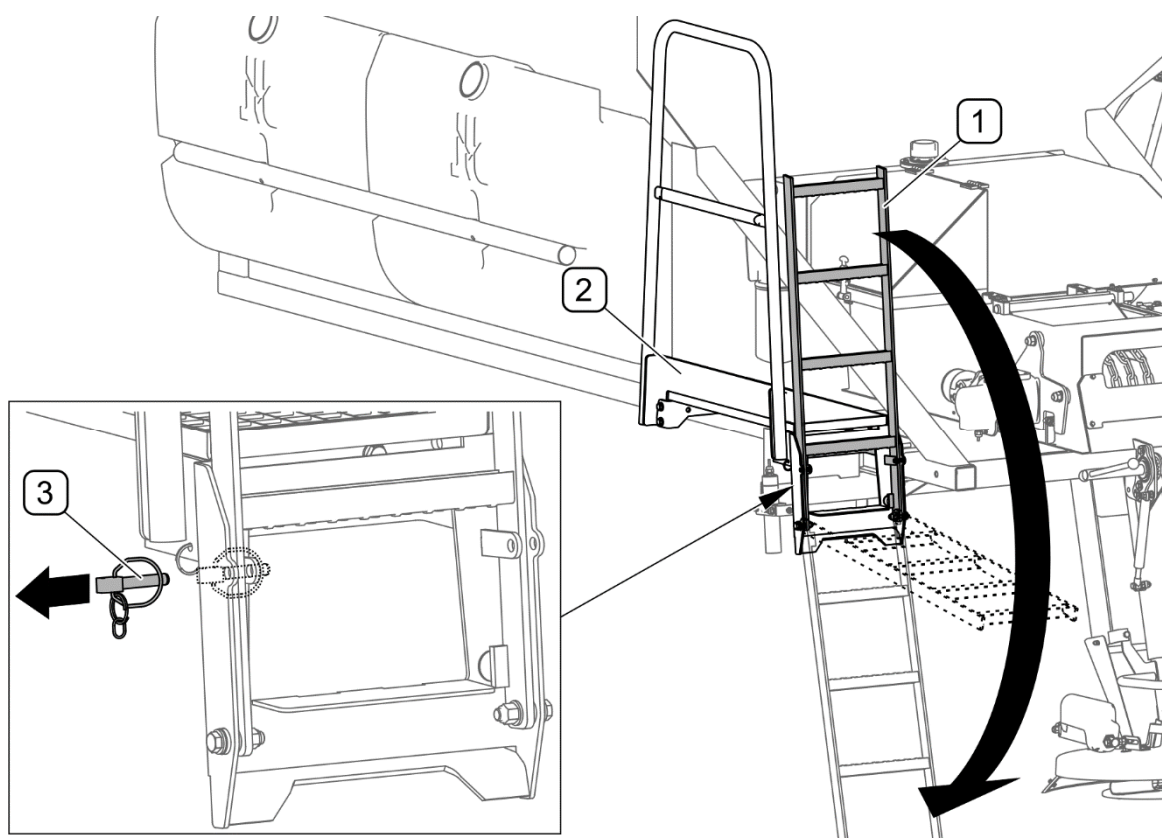

FIG. 4.15 Ladder and platform
(1) - ladder; (2) - platform; (3) - securing cotter pin
The platform (FIG. 4.15) fitted with ladder (1) facilitates raising and lowering of tarpaulin cover.
To lower the ladder (FIG. 4.15):